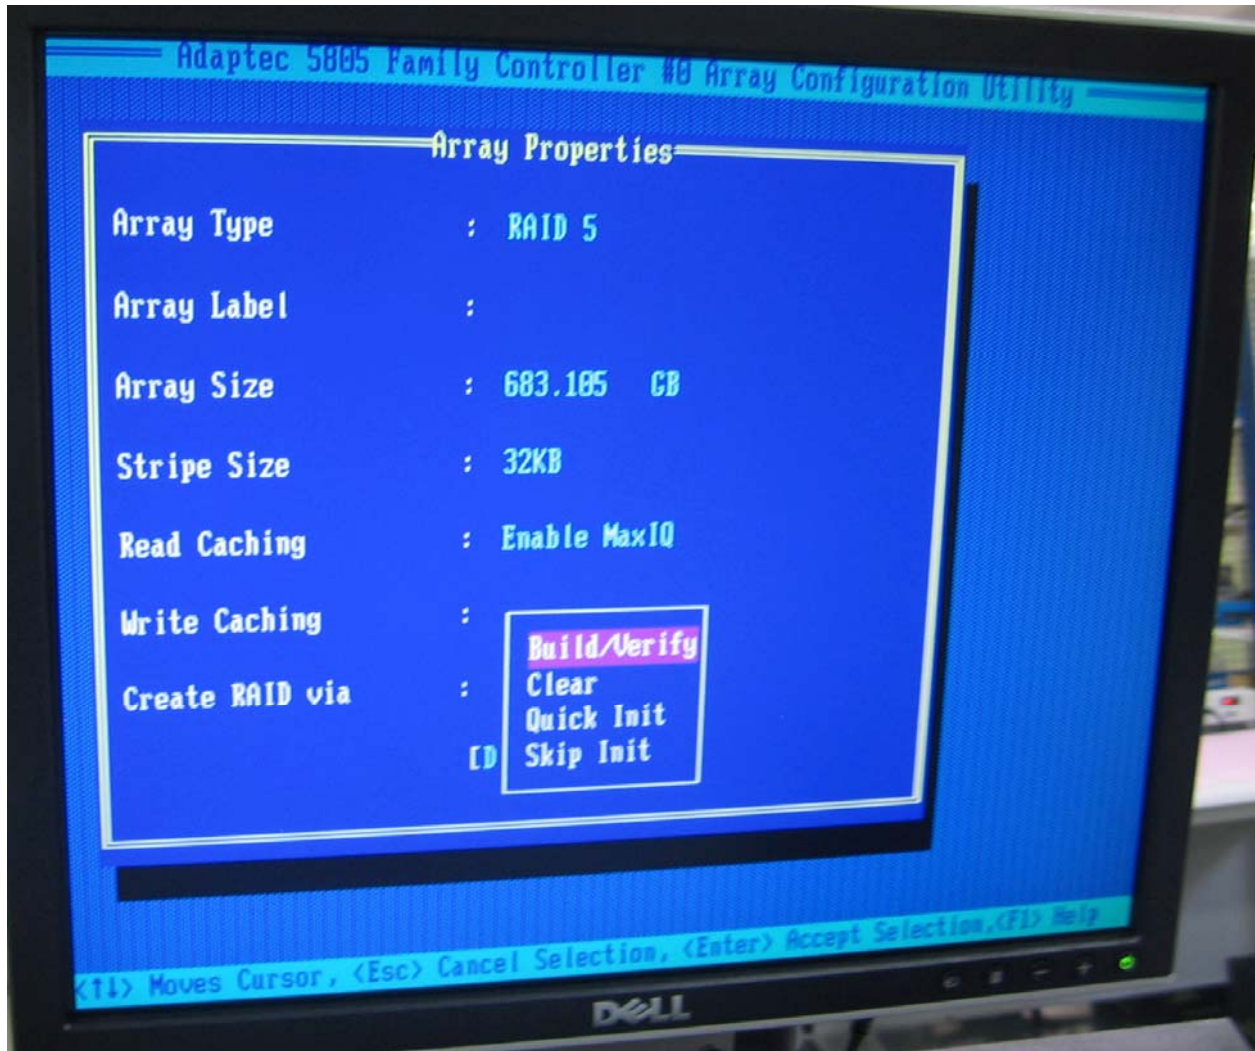

Figure 7-15 Build/Verify
17. In **Create RAID** select (**Build/Verify**) and press **Enter**. (Figure 7-15).